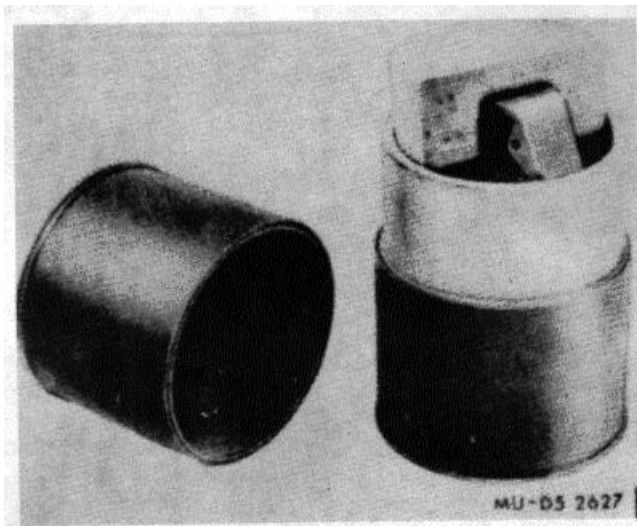

Figure 2-0.2. Hand grenades packed right side up (fuze up) without safety pin and pull ring. MU-D5 2627
• **IF HAND GRENADE IS PACKED UPSIDE DOWN (FUZE DOWN) (-G. 2-0.1), OR RIGHT SIDE UP F-UZE UP) WITH SAFETY PIN .NOT IN PLACE (FIG. 2-0.2), DO NOT ATTEMPT TO REMOVE GRENADE FROM ITS CONTAINER.**